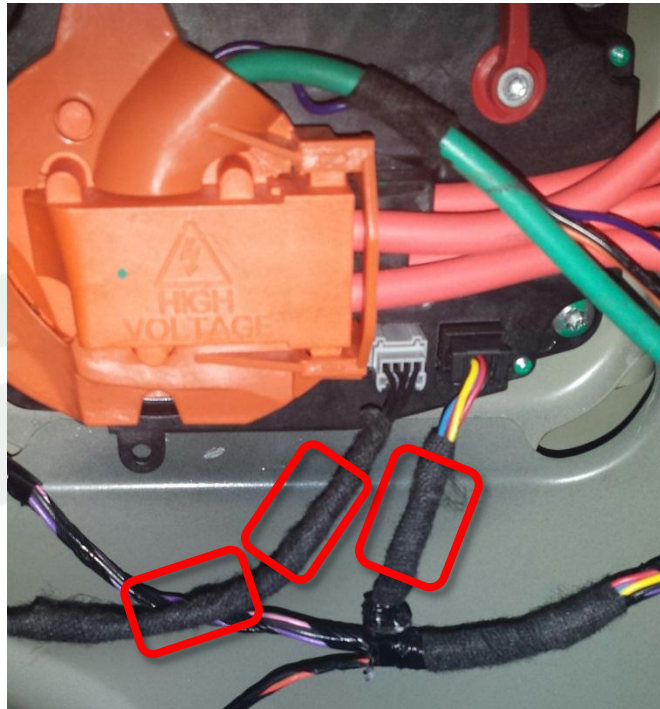

Figure 11
15. Install 3 small ferrite beads as shown (Figure 11).